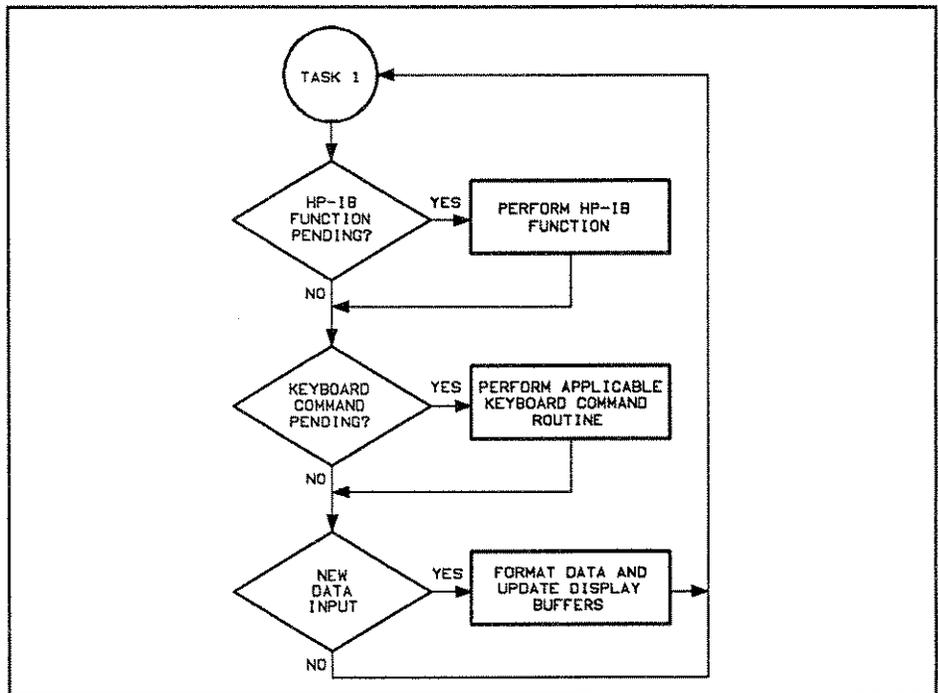

Figure 8-3. Task 1 Flowchart
2. The task 1 routine primarily handles user commands (both front panel and HP-IB). A flowchart of the Task 1 routine is shown in Figure 8-3.